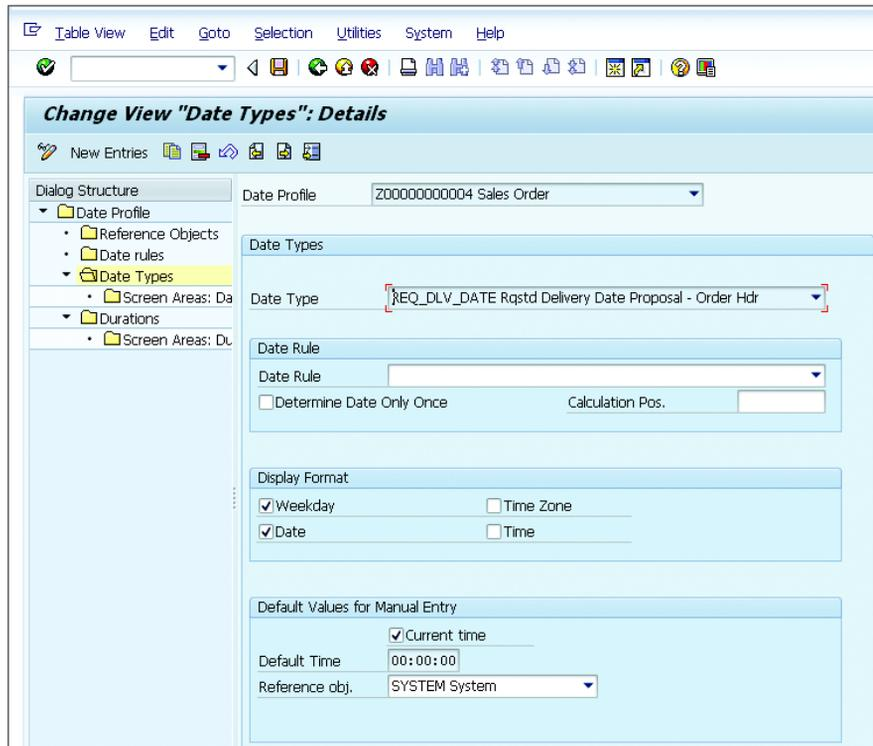

Figure 4.73 Date Type Details Where the Date Rule Can Be Assigned
- On the CHANGE VIEW "DATE TYPES": DETAILS screen, you can also configure the date display format with the WEEKDAY, DATE, TIME ZONE, and TIME checkboxes (see Figure 4.73).
Figure 4.73 shows the SYSTEM as the REFERENCE OBJ. with the CURRENT TIME option selected.